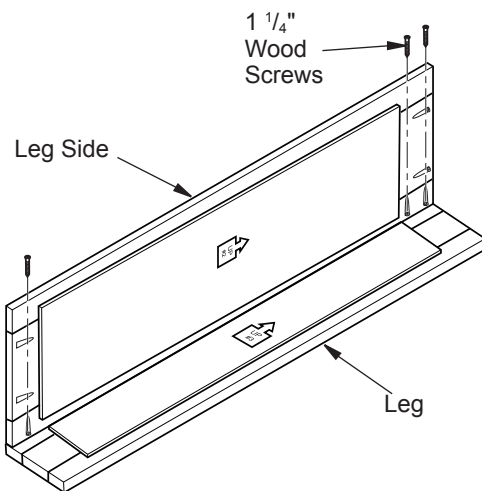

Figure 1 - Assembling Legs
1. Lay right front leg (#3) on floor. Position right side (#2) as shown in Figure 1. Align predrilled screw holes in front leg and side. Make sure ends are flush. Attach with two or three 1 1/4" wood screws, depending on your model. Repeat for other leg using #4 and #5.